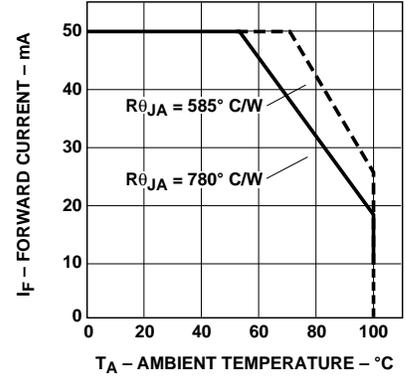

Figure 4. Maximum Forward Current vs. Ambient Temperature. Derating Based on $T_{JMAX} = 130^{\circ}C$.
- Derate linearly as shown in Figure 4.